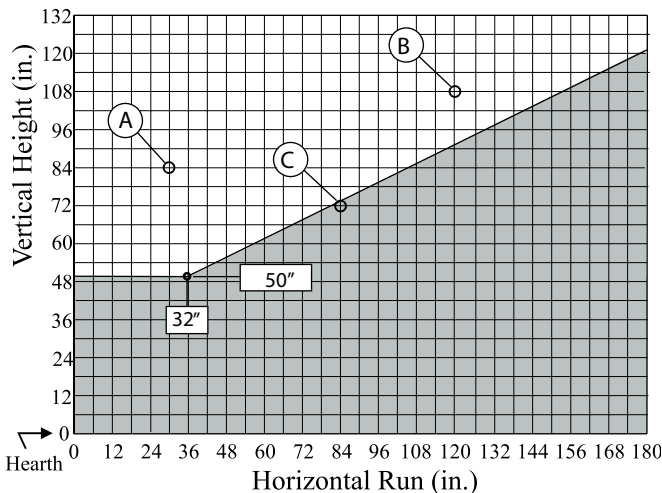

Figure 20. B-Series DV-2 Multi-Elbow Venting Graph.
- your vent run must fall within the limits set by Figure 20.
Measure the vertical height from the fireplace hearth to the centre of the termination and the horizontal run from the fireplace flue collar to the wall flange of the termination. Plot on the Venting Graph (Fig. 20) with an 'X'.
Venting runs *must* fall within the limits set by the venting graph (see Figure 20).